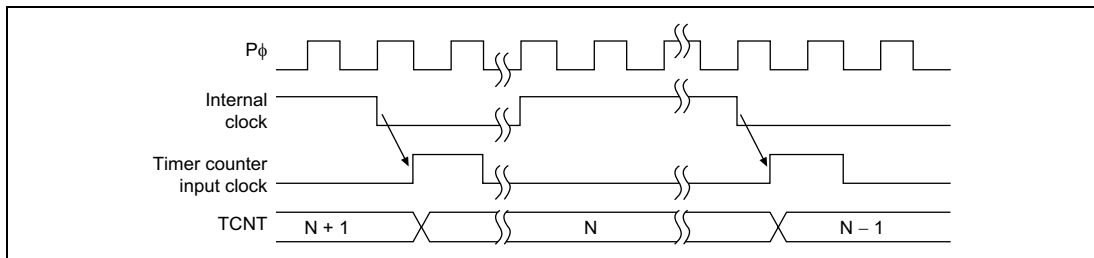

Figure 12.4 Count Timing when Internal Clock Is Operating
1. Internal Clock Operation: Set the TPSC2 to TPSC0 bits in TCR to select whether one of the four internal clocks created by dividing the peripheral module clock is used ($P\phi/4$, $P\phi/16$, $P\phi/64$, $P\phi/256$). Figure 12.4 shows the timing.